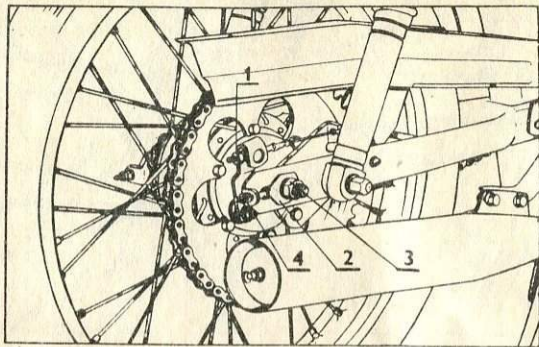
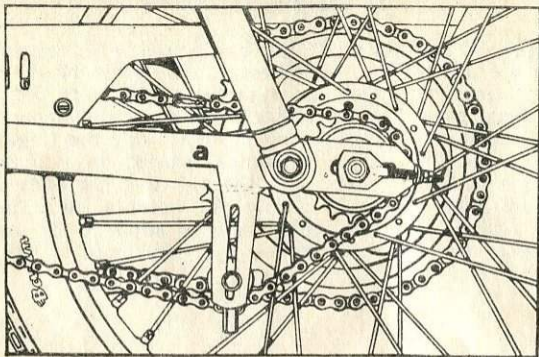

Fig. 16 — Adjusting of rear brake and engine drive transmission chain
Fig. 17 — Adjusting of pedal drive transmission chain
For adjusting the rear brake use the adjusting nut (1), Fig. 16. If this is of no avail, re-set the brake toggle on the splined shaft. The rear brake can then again be adjusted by means of the adjusting nut.
To take up the slack of the chain from the engine, first loosen the nut of the rear wheel spindle (Pos. No 3, Fig. 16). Now tension the chain by tightening the nuts (4) of the chain tensioners (2) on either side of the frame. The sag of the chain when compressed midway with the fingers must be about 15 mm. After tensioning, check the alignment of the track of both wheels with the aid of a perfectly straight lath, and then retighten firmly the spindle nut. The slack of the chain from the pedals can be adjusted by means of the tensioning roller (a) on the left-hand side of the moped (Fig. 17).